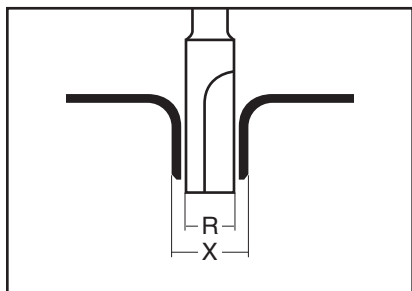
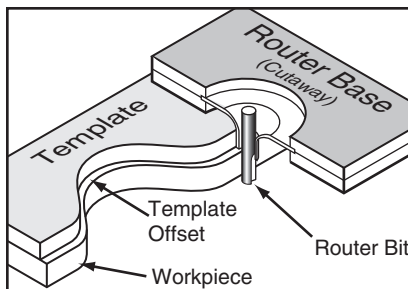

Figure 13. Calculating template offset.
Figure 14. Using the template guide.
2. Take into account the diameter of the template guide when calculating the size of the template. The diameter of the bushing (X in **Figure 13**), minus the diameter of the router bit (R), divided by 2, gives you the template offset as shown in **Figure 14**.